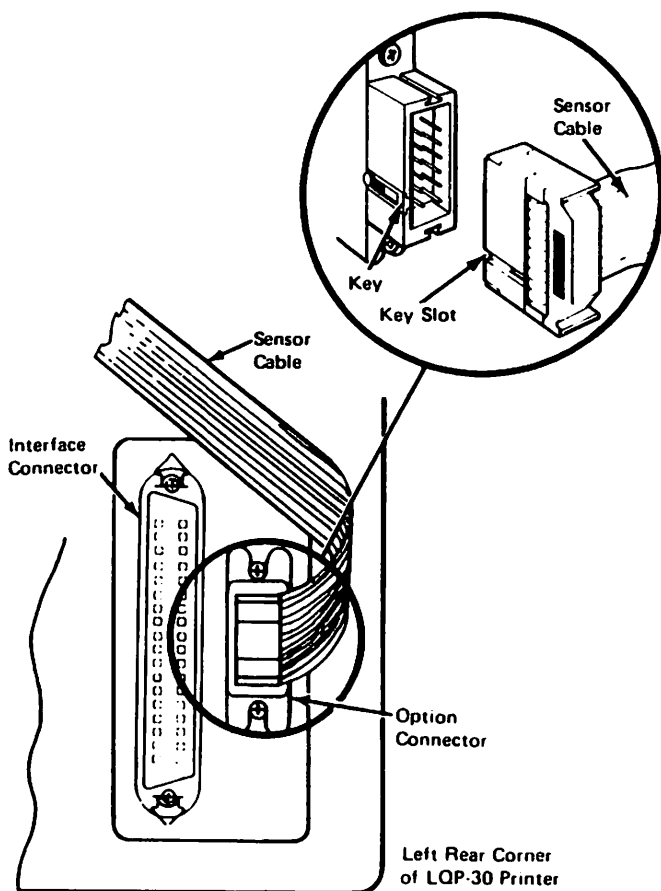

Figure 6 Option connector location
6. Connect the sensor cable to the option connector at the left rear of the printer. The connector is made to plug-in in only one position. The key slot of the sensor cable must be positioned to align with the key in the option connector (Figure 6).
one position. The key slot of the sensor cable must be positioned to align with the key in the option connector (Figure 6).